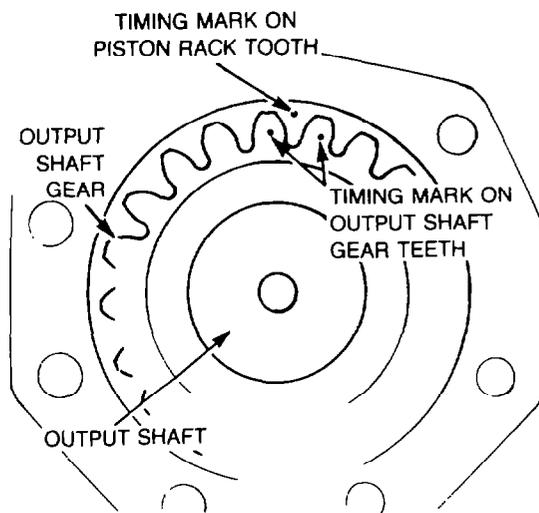

Figure 293 — Aligning Timing Marks
- u. Apply a light coat of chassis grease on the housing bearing and on the Quad ring, and carefully slide the output shaft through the housing. Align the timing marks on the pinion gear with the timing mark on the rack (see Fig. 293).